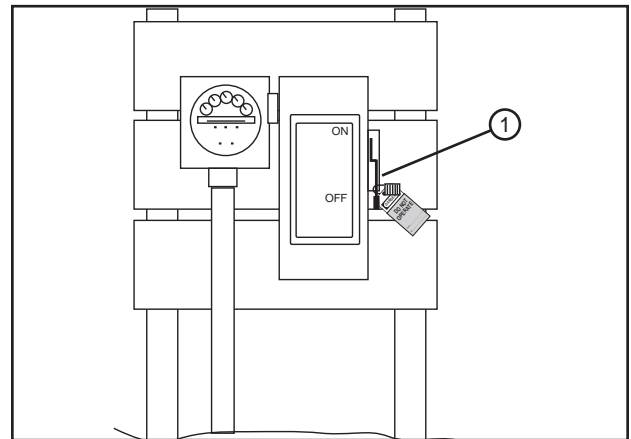

Figure 27-1 1. Public Power Service Disconnect
1. SHUT OFF and LOCK the public power service disconnect to the irrigation machine. See figure 27-1.
FILL OUT the blue (OSHA safety color code) tag and attach to the disconnect after locking. See figure 27-1.